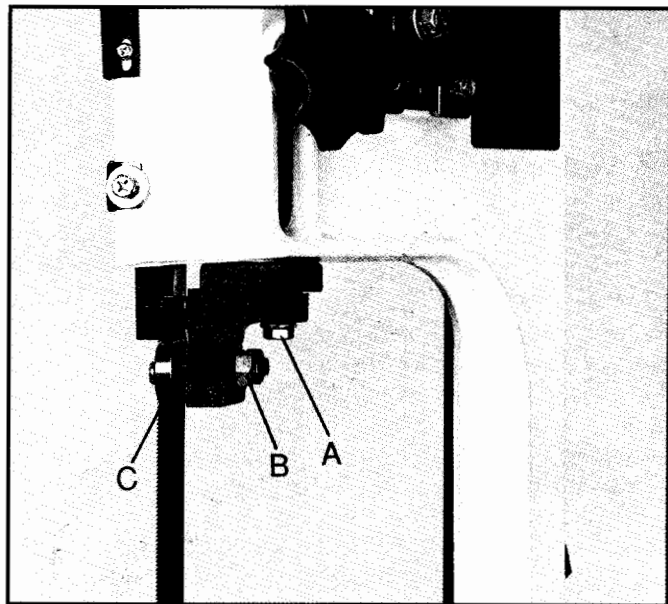

Fig. 11
2. Loosen bolt (A, Fig. 11) and adjust assembly so that back roller bearing is approximately .002" - .003" from the back of the blade. Tighten bolt.
3. Loosen nut (B, Fig. 11) and turn nut (C, Fig. 11) to adjust eccentric bearing to a clearance of .001". Tighten nut (B, Fig. 11) to lock.